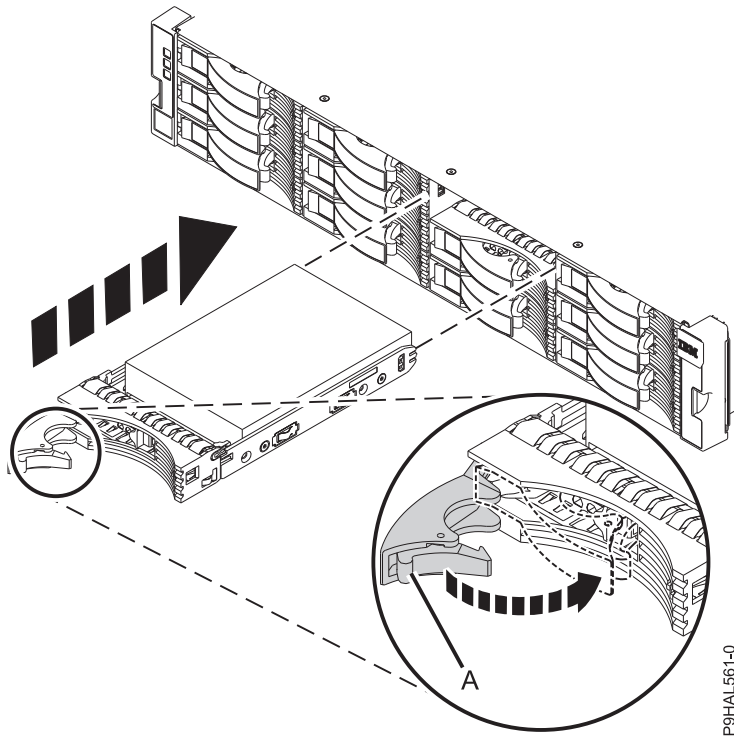
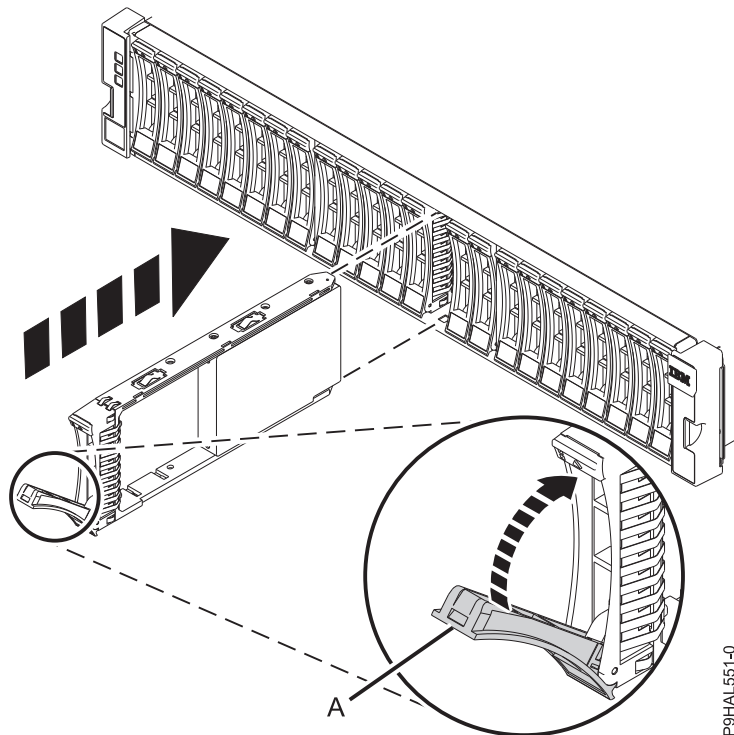

Figure 10. Installing a drive in the ESLL storage enclosure
Figure 11. Installing a drive in the ESLS storage enclosure
3. With the handle in the unlocked position, support the bottom of the drive as you align it with the guide rails in the enclosure. See Figure 10 on page 9 or Figure 11 on page 9.